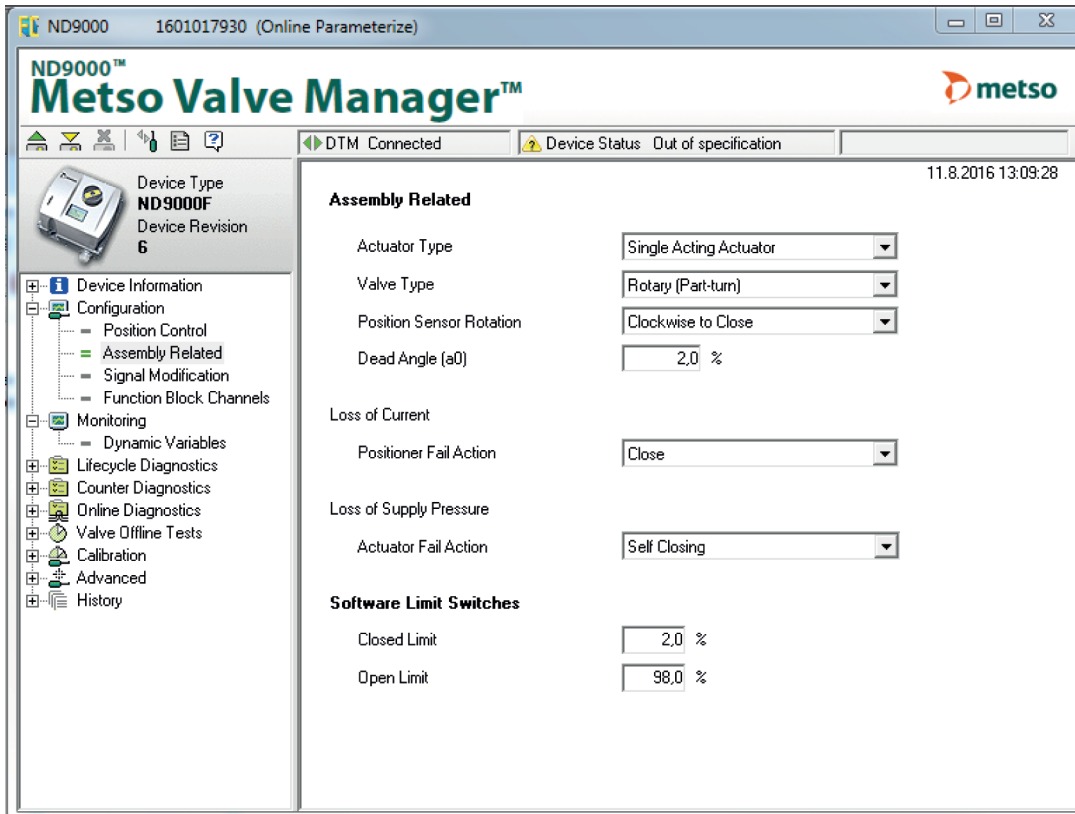

Figure 1. Assembly related parameters' setup in Metso Valve Manager DTM
1. See figure for assembly related parameter settings, see Figure 1.